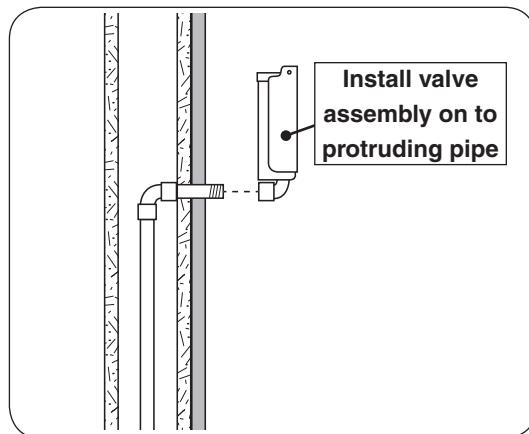

Fig. 2-1 Install valve assembly
1. Attach the valve assembly elbow to the gas pipe. Rotate the entire assembly clockwise until it is fully secured to the gas pipe. See Fig. 2-1. Use a pipe joint compound resistant to all gasses on the male pipe.